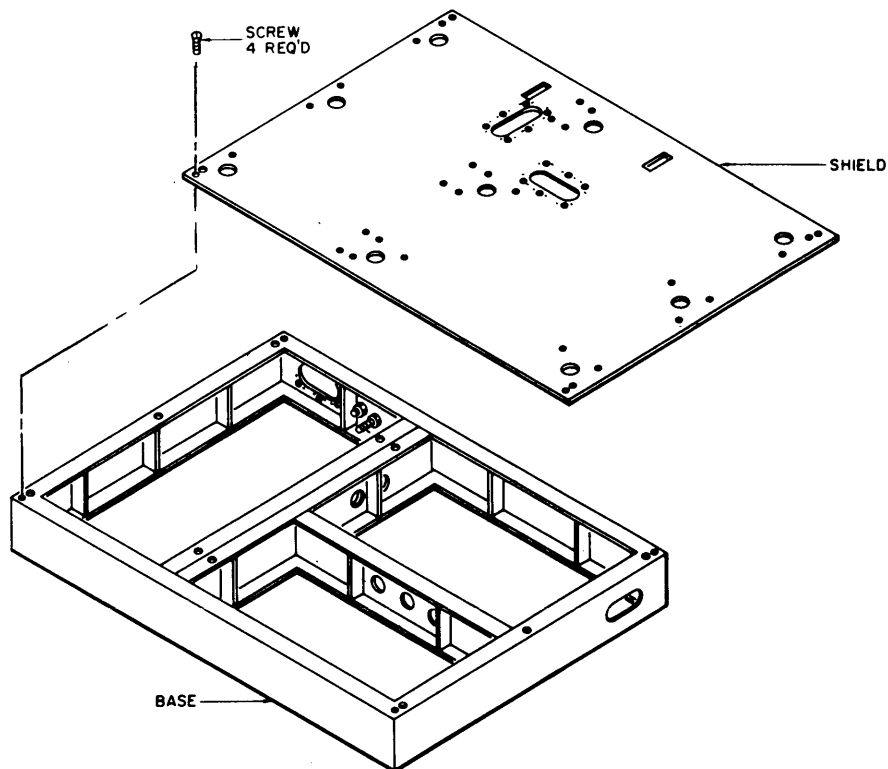

Figure 2-4. Base Assembly, First and Second Frames, Installation Diagram
- (1) Unpack assorted loose items from crate 1, and check each item contained against equipment supplied list.
- (2) Unpack crate 2, and remove shield from base assembly (refer to figure 2-4) for the first and second frames. Shield will be replaced later.
- (3) Position base assembly in accordance with pre-installation planning.
- (6) Properly position shield (refer to figure 2-4) on base assembly, and using hardware previously removed, tightly bolt shield to base assembly.